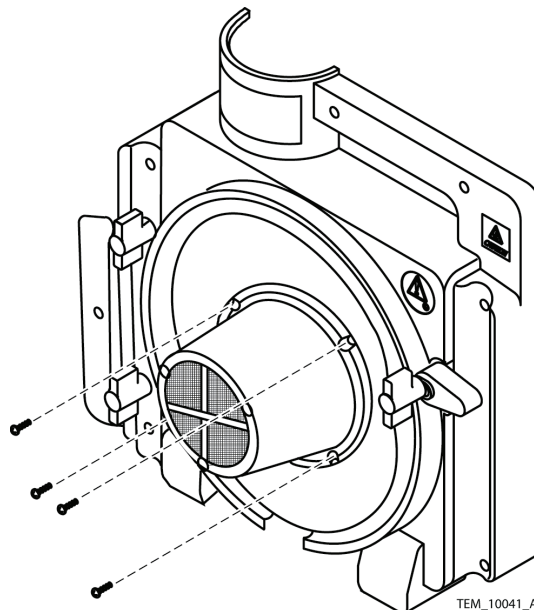

Figure 66. Blower Assembly Screws
21. Remove the screws holding the blower assembly to the rear cover assembly. See Figure 66.